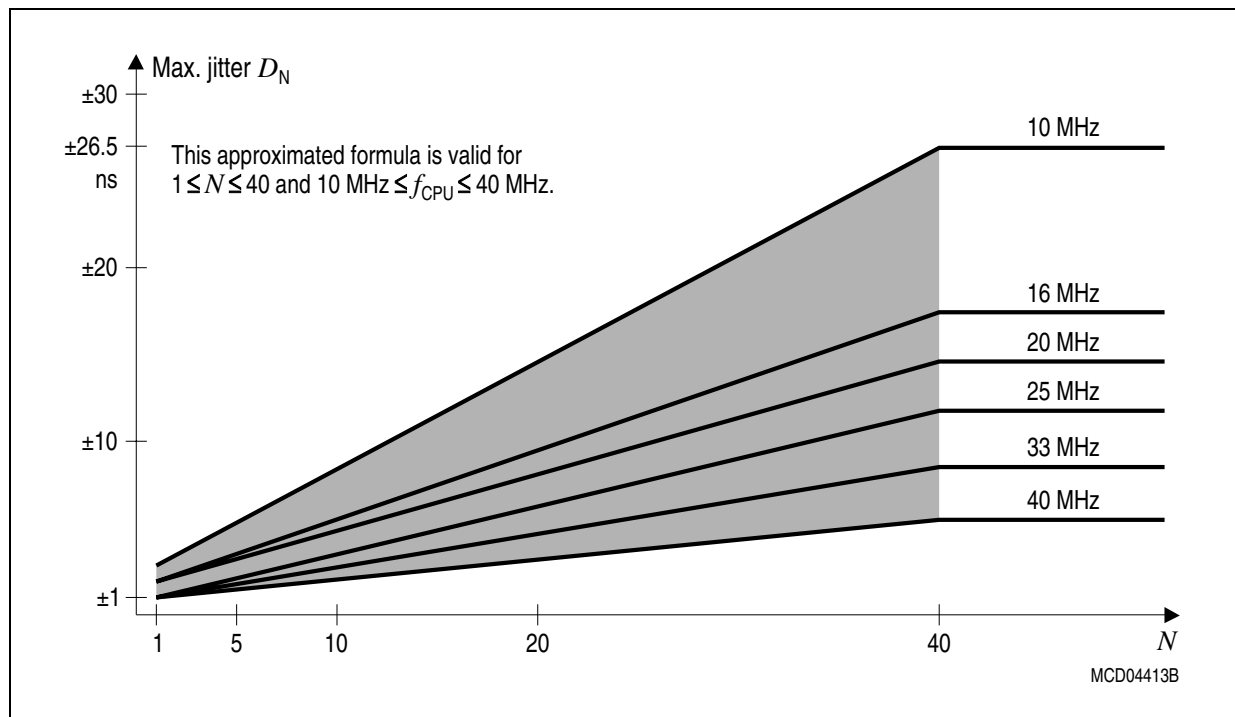

Figure 12 Approximated Maximum Accumulated PLL Jitter
The actual minimum value for TCL depends on the jitter of the PLL. As the PLL is constantly adjusting its output frequency so it corresponds to the applied input frequency (crystal or oscillator) the relative deviation for periods of more than one TCL is lower than for one single TCL (see formula and **Figure 12**).
*Note: For all periods longer than 40 TCL the $N = 40$ value can be used (see **Figure 12**).*